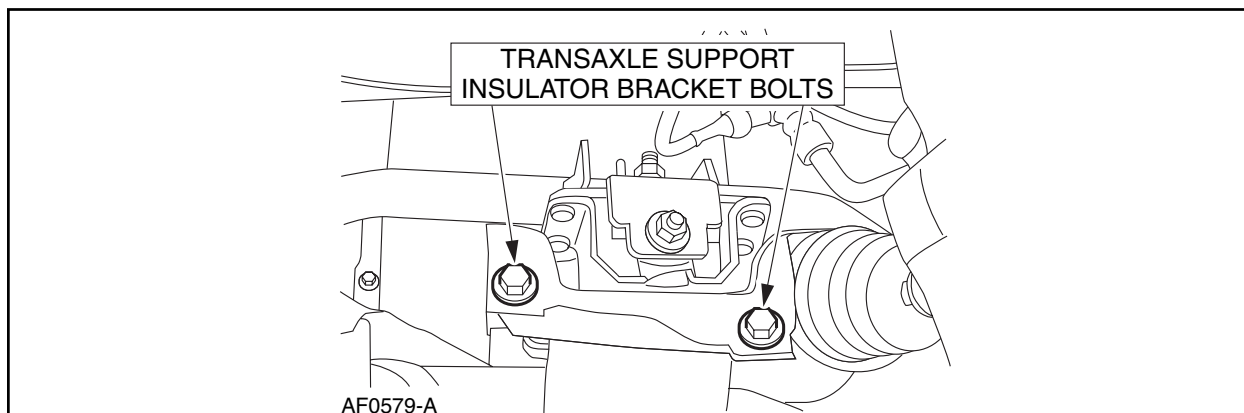

FIGURE 8
13. Remove the two bolts securing the transaxle support insulator bracket to the subframe. See Figure 8.